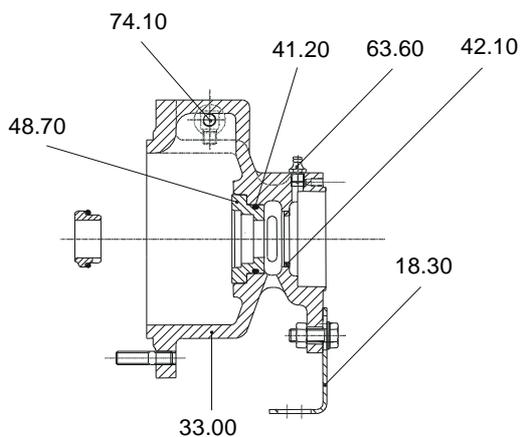

Fig. 8
16. Carefully press out the mechanical seal stationary seat from the bearing housing 33.00 (fig. 8).